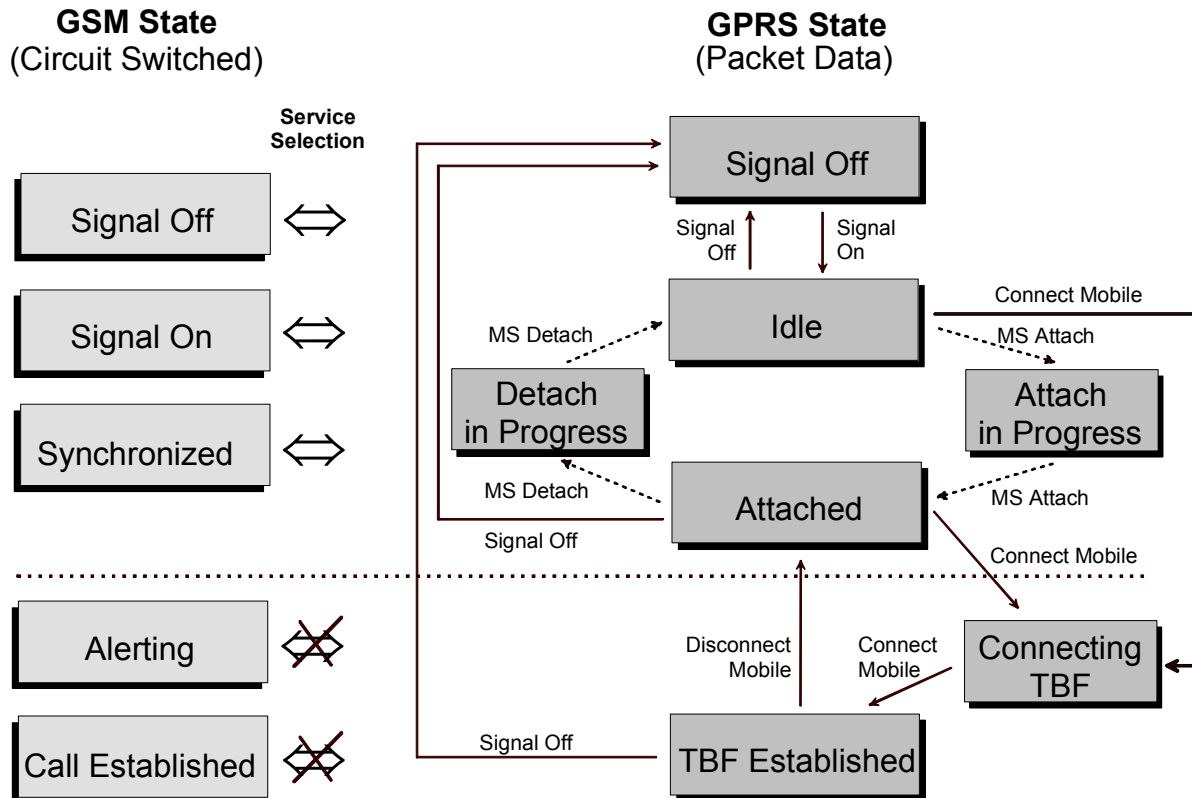

Fig. 4-120 GPRS signalling states
4. The GPRS signalling states and the procedures for setting up a data connection are analogous to the corresponding circuit switched functionality. GPRS is an additional mode of the mobile phone so that the circuit switched GSM and the GPRS signalling schemes are largely independent from each other. Any time before a call or a TBF connection is established, the CMU is able to switch over between circuit switched GSM and GPRS mode (see Fig. 4-120 on p. 4.271).
A number of actions or control commands which can be initiated either by the CMU (e.g. *Signal On*, *Signal Off*) or by the mobile station (e.g. *MS Attach/Detach*) switch between the different signalling states. In Fig. 4-120 on p. 4.271, dashed lines represent processes initiated by the mobile station.
5. To establish a TBF connection proceed as outlined in Fig. 4-120 below and in the following sections.